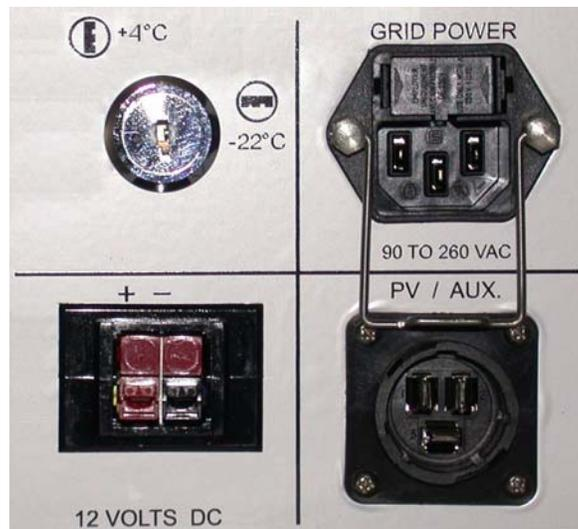
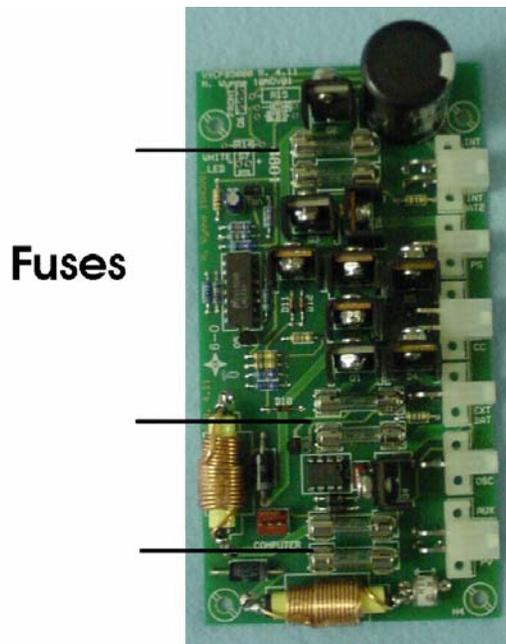

Figure 4. Power Input Panel with Key Switch
Figure 9. Location of Fuses
- The power input panel has three different connectors (See Figure 4.):
The power input panel with the key switch is shown in Figure 4.
The system is protected from excessive currents by a series of fuses. The first set of fuses is located within the input receptacle for AC current shown in the upper right corner of Figure 4. **Depending on the model of the input receptacle, one or two fuses are required.** The fuse rating is 3 amps, 250 V (5x20 mm size). The remaining six fuses (10 amp, 250 V 5x20 mm size) are located on the power board as shown in Figure 9. These fuses are accessible by removing the compressor and electronics cover at the rear of the unit.
The connector on the end of the solar panel cable will only fit into the PV/AUX connector on the power input panel of the VaxiCool (Figure 4, page 9). It cannot be mated accidentally to any other connector on the VaxiCool.